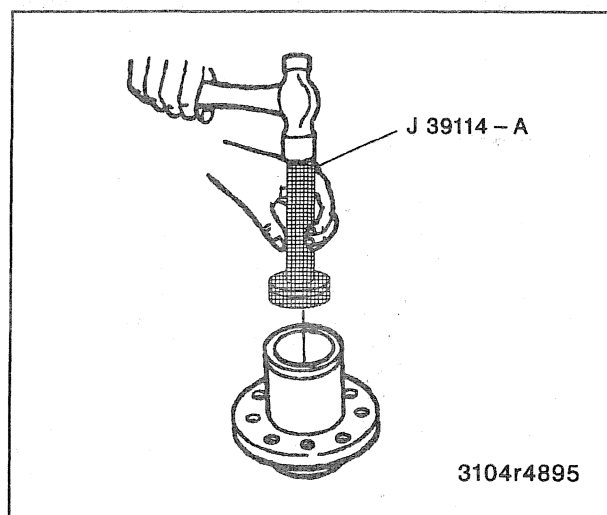

Figure 33—Installing Oil Seal into Hub
- ### 5. New oil seal using J 39114-A (figure 33).